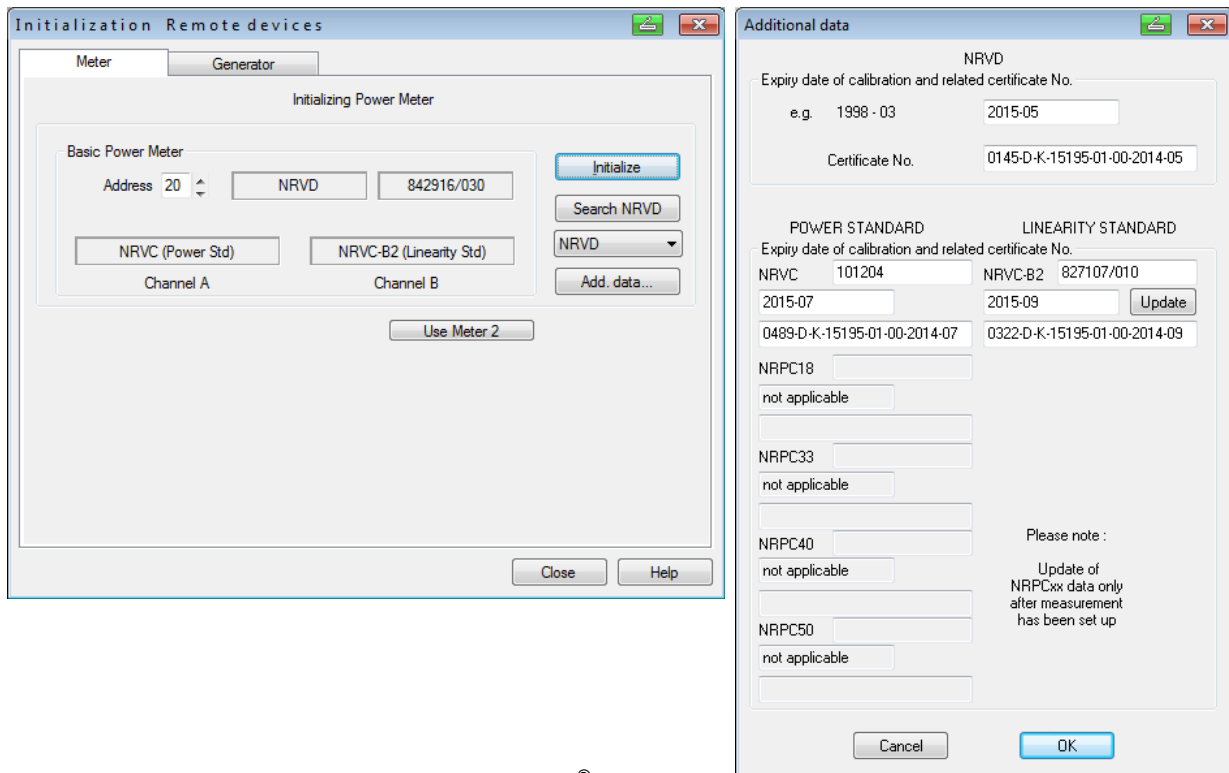

Fig. 3-1 Dialog boxes for initializing the R&S®NRVD and the two standards
- Regardless of the selected combination, the R&S®NRPC reinitializes prior to calibration of a sensor. After pressing the **Add data ...** (Fig. 3-1) button, information is provided for each R&S®NRPC that was used in the last calibration. After changing the power standard, this information is not updated immediately. Instead, it is updated after launching a new measurement (button ).
- In the case of an initial installation or after a recalibration, the power standard and the linearity standard are to be connected to the two measurement channels of this R&S® NRVD. The R&S® NRVD should then identify the two sensors and make the necessary entries in the **Channel A** and **Channel B** boxes (Fig. 3-1)